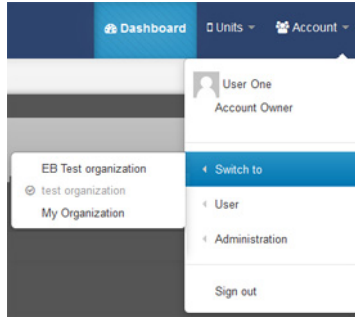

Figure 91. Expanded Account menu on OneTouch AT 10G.com
- 2 Select the organization you want. The currently active organization will be the first item listed in the menu, see Figure 91. You can also look in the **Switch organization** menu option, if you are a member of more than one organization.